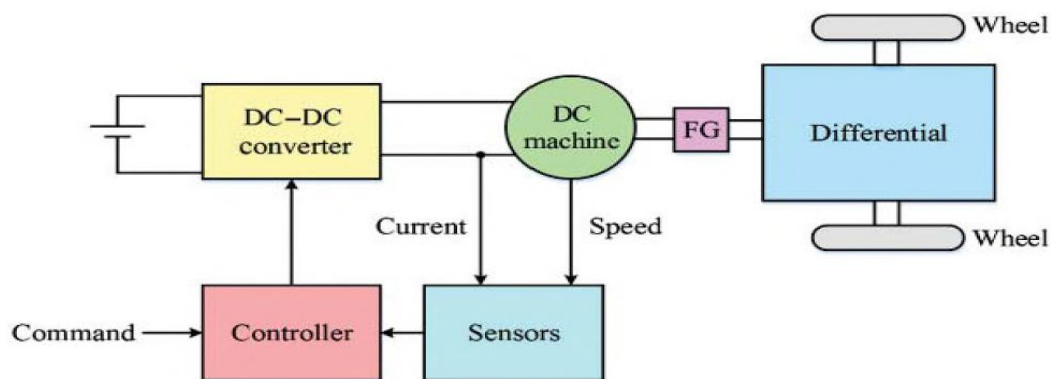

Fig. 1: Configuration of DC Motor Drive for Electric Vehicle Propulsion
In Fig. 1 below, a block diagram showing the various components of a DC motor drive used for the propulsion of an electric vehicle is provided. This electric vehicle is designed to provide both forward motoring and reverse braking operation. The DC-DC converter is a type of DC chopper, the DC motor (shown as DC machine in Fig. 1) operates at rated speed of 5000 rpm and the fixed gear (FG) is incorporated to step-down the speed to 1000 rpm for driving the vehicle wheels.